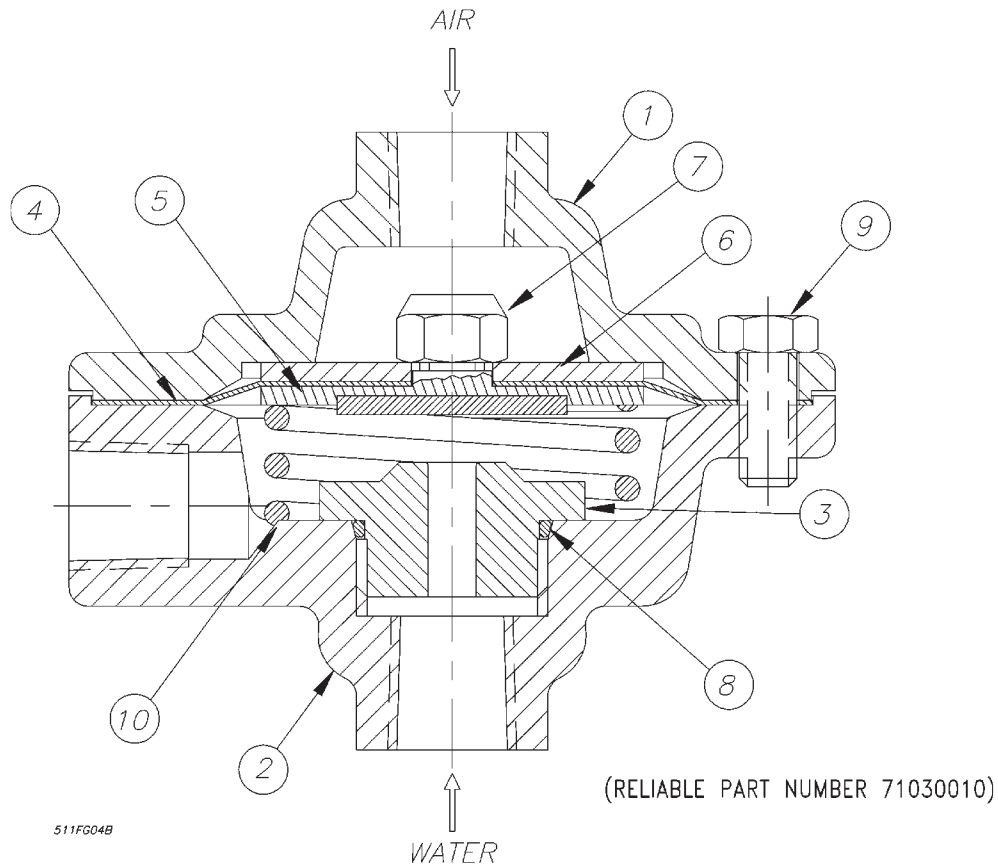

Fig. 4
Refer to Figs . 4 & 9
3. Remove all six bolts (#9, Fig. 4) holding the Actuator together. Clean or replace the facing plate assembly (#5, Fig. 4) and seat (#3, Fig. 4).
4. Reassemble the Actuator, using a torque of 8 ft-lbs on the facing plate nut (#7, Fig. 4) and 12 ft-lbs on the six bolts (#9, Fig. 4). Use a cross-tightening pattern. Rein stall the Actuator. Set up the Model DDX Deluge Valve as per the section "Resetting Model DDX Deluge Valve System".